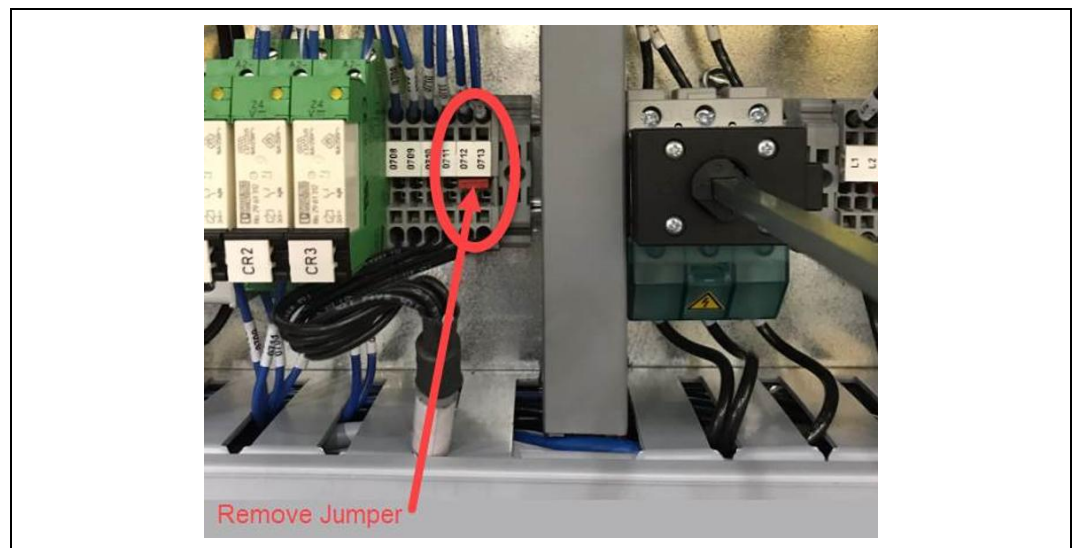

Figure 1. Main Control Enclosure - Jumper for External Safety Input
- 4.1.1 If necessary remove cable from CON1 and CON2 and re-install jumper (see Figure 1) in the Main Control Enclosure.